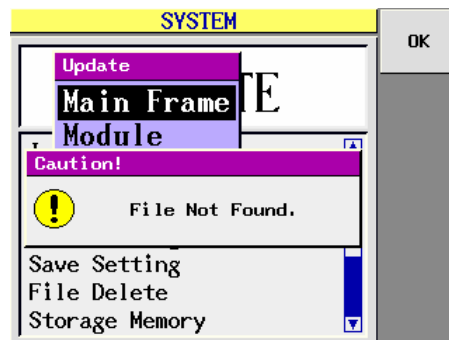
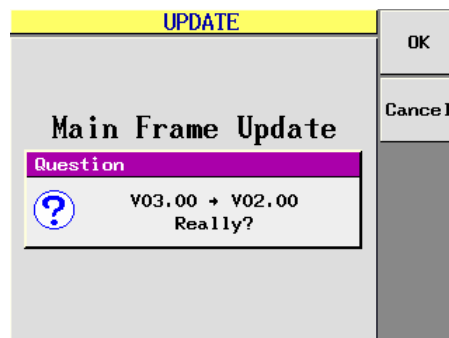

Fig. 9-3 Error when the Selected Storage Device Contains No Firmware
Fig. 9-4 Downversion Confirmation Screen
8. Press the [ENTER] key. If no update file is found, a screen such as the one in figure 9-3 is displayed. Check once again whether the update file is in the medium. If you attempt to upgrade to a version of the firmware prior to the current version, a screen such as the one in figure 9-4 is displayed. To accept the "downgrade," press <OK>. Otherwise press <Cancel>.
- The screen shown in Fig. 9-3 appears if the selected storage device contains no firmware.
- If the update firmware version is older than the current one, the screen shown in Fig. 9-4 will appear.